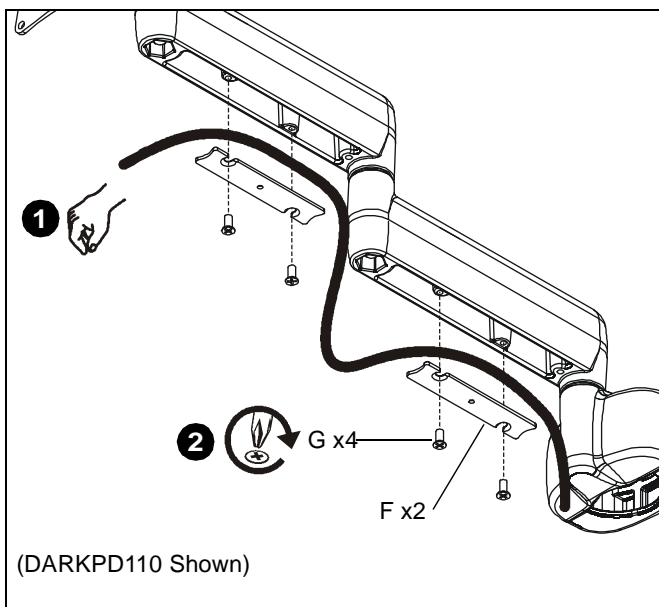

Figure 5
1. Carefully insert cables into cavities located in lower portions of each mount arm. (See Figure 5)
2. Install each cover (F) with two screws (G) (See Figure 5).